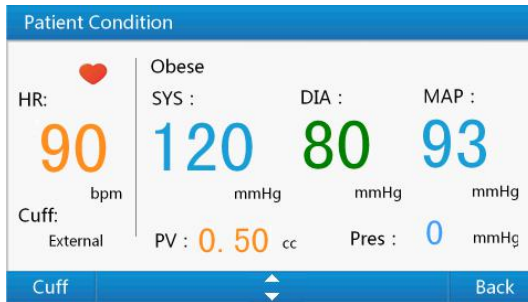

Figure 17 Patient condition BP simulation interface
- 1) Select "**Patient Condition**" in "**BP Simulation Menu**" or use number key "**5**" to the patient condition BP simulation interface shown as Figure 17.